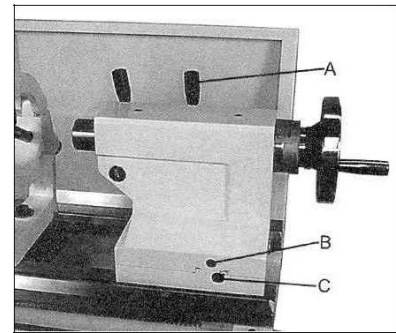

Fig 19
To offset the tailstock, loosen the locking handle (A, Fig 19), loosen the front adjusting screw (B) and take up the same amount on the rear adjusting screw. Tighten the adjusting screws and the locking nut to hold the tailstock in position.